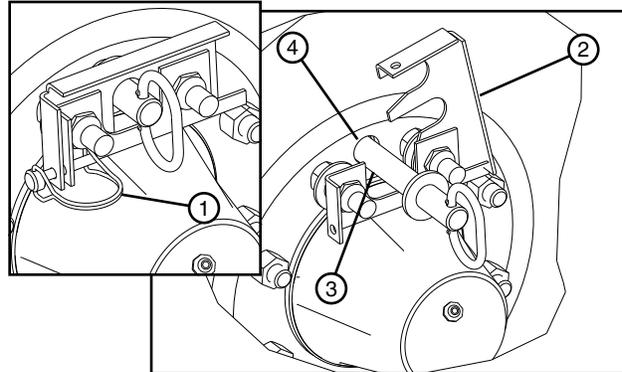

Figure 58-1 1. Lynch Pin
5. Leave the torque pin installed in the hub torque pin receiver on the pivot point cart wheel so that this wheel will not rotate (fixed). See Figure 58-1.
6. Remove the torque pin from the hub torque pin receiver on the other cart wheel so that this wheel will rotate. See Figure 58-1.